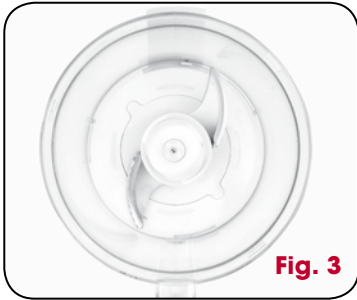

Fig. 3
2. Hold the central plastic spindle of the processing blade and carefully place it over the drive shaft (see Fig. 3).